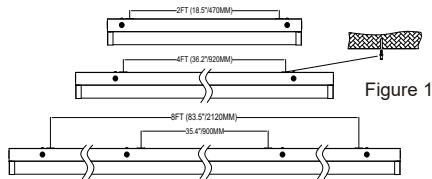

Figure 1
- Step1. According to the different lengths of the product, drill holes at the corresponding positions and drive the rubber plugs from the accessory kit into the holes (Figure 1)